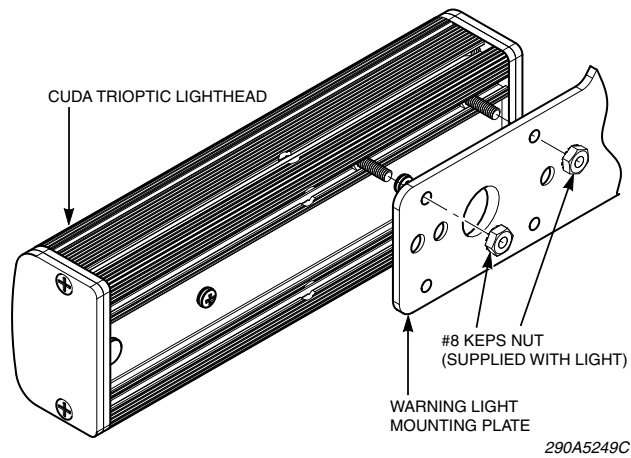

Figure 4: Securing the lightheads
- a. Secure the lightheads to the mounting plate with the hardware provided with the lightheads (*Figure 4*).